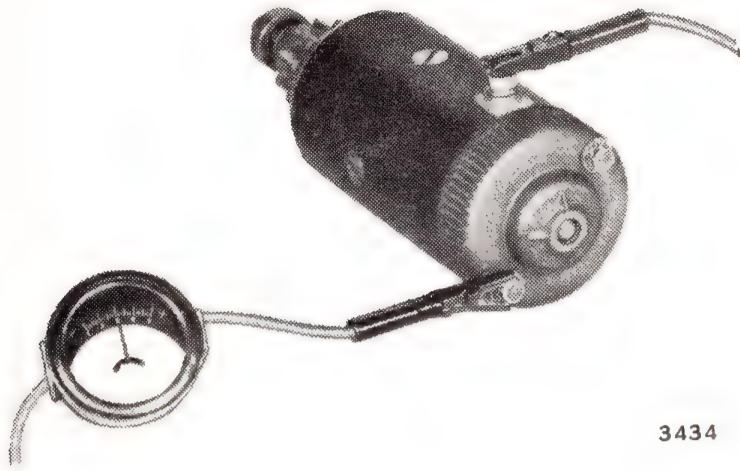

Figure 7-5. Starter Motor Test
Due to the construction of the starter motor, maintenance operations are generally limited to periodic checking for looseness of mounting. Unless it is certain that the starter motor requires attention, do not remove it for overhaul. A thorough check should be made of the battery, cables, starting solenoid, and switch as outlined in the Trouble Check Chart in Section 2. Check the starter motor by using the no load test. With 10.0 volts applied to the starter motor, maximum current should be 60.0 amperes and minimum speed should be 8000 rpm. See Figure 7-5. Remove starter motor for test as follows:
d. Check starter motor with no load test. With 10 volts applied to the motor terminals, maximum current should be 60.0 amperes and minimum speed should be 8000 rpm. See Figure 7-5.